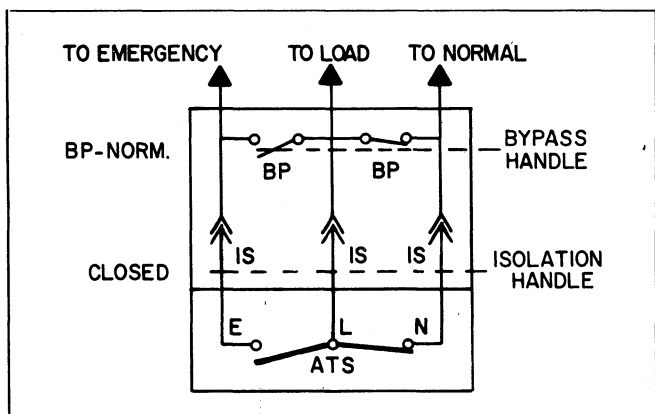

Figure 4. Bypass
1. Bypass Automatic Transfer Switch as follows (Figure 4.)